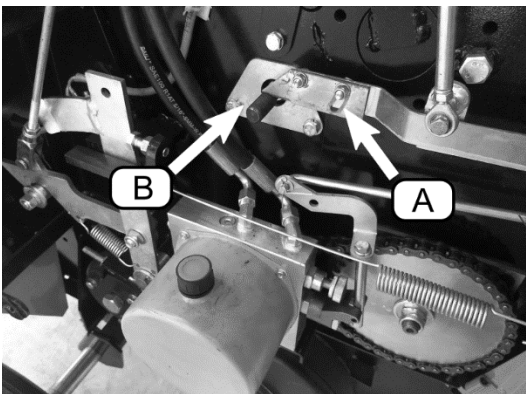

Figure 30 Right side of baler
- a. The metering knife (Figure 30, A) travels along the threads of the metering rod (B) as the wrapping process takes place. The longer it stays on the rod, the more net will unravel and wrap around the bale. The rod can be turned and extended outward from the machine to achieve a longer metering period and thus more wraps on the bale. The opposite is also true.